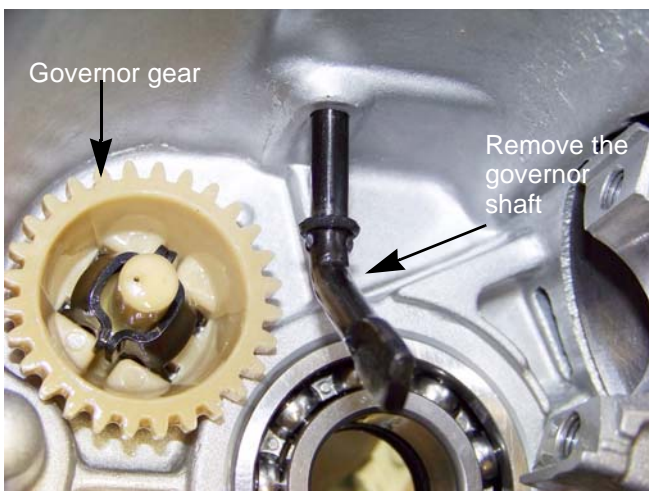

Figure 4.28
6. Slide the governor arm out of the engine block from the inside of the engine. See Figure 4.28.